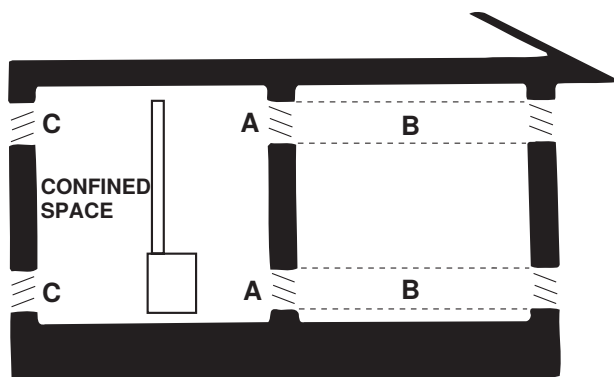

Figure 6. Confined Space Combustion Air Openings (Refer to Table 10)
- Provide openings (depending on the combustion air source) near the floor and ceiling for ventilation and air for combustion, as shown in Figure 6 and as listed in Table 10.
*See Figure 6.